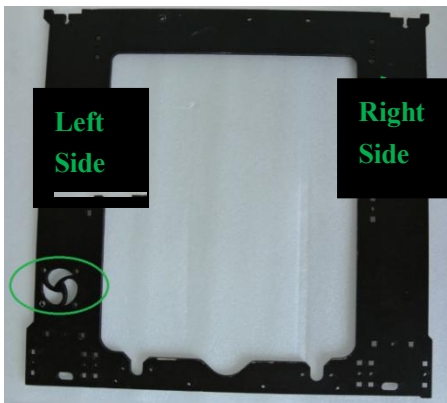

Figure 1. Front View of A1 Board
Before installation, find A1 board, A2 board and A3 board, then align the holes of each board. Use ③, ④ and ⑥ to install each board for assembling a main framework. The installation direction must comply with the following figures (Figure 1 to Figure 5). The connection of each board and assemblies are shown in Figure 6.